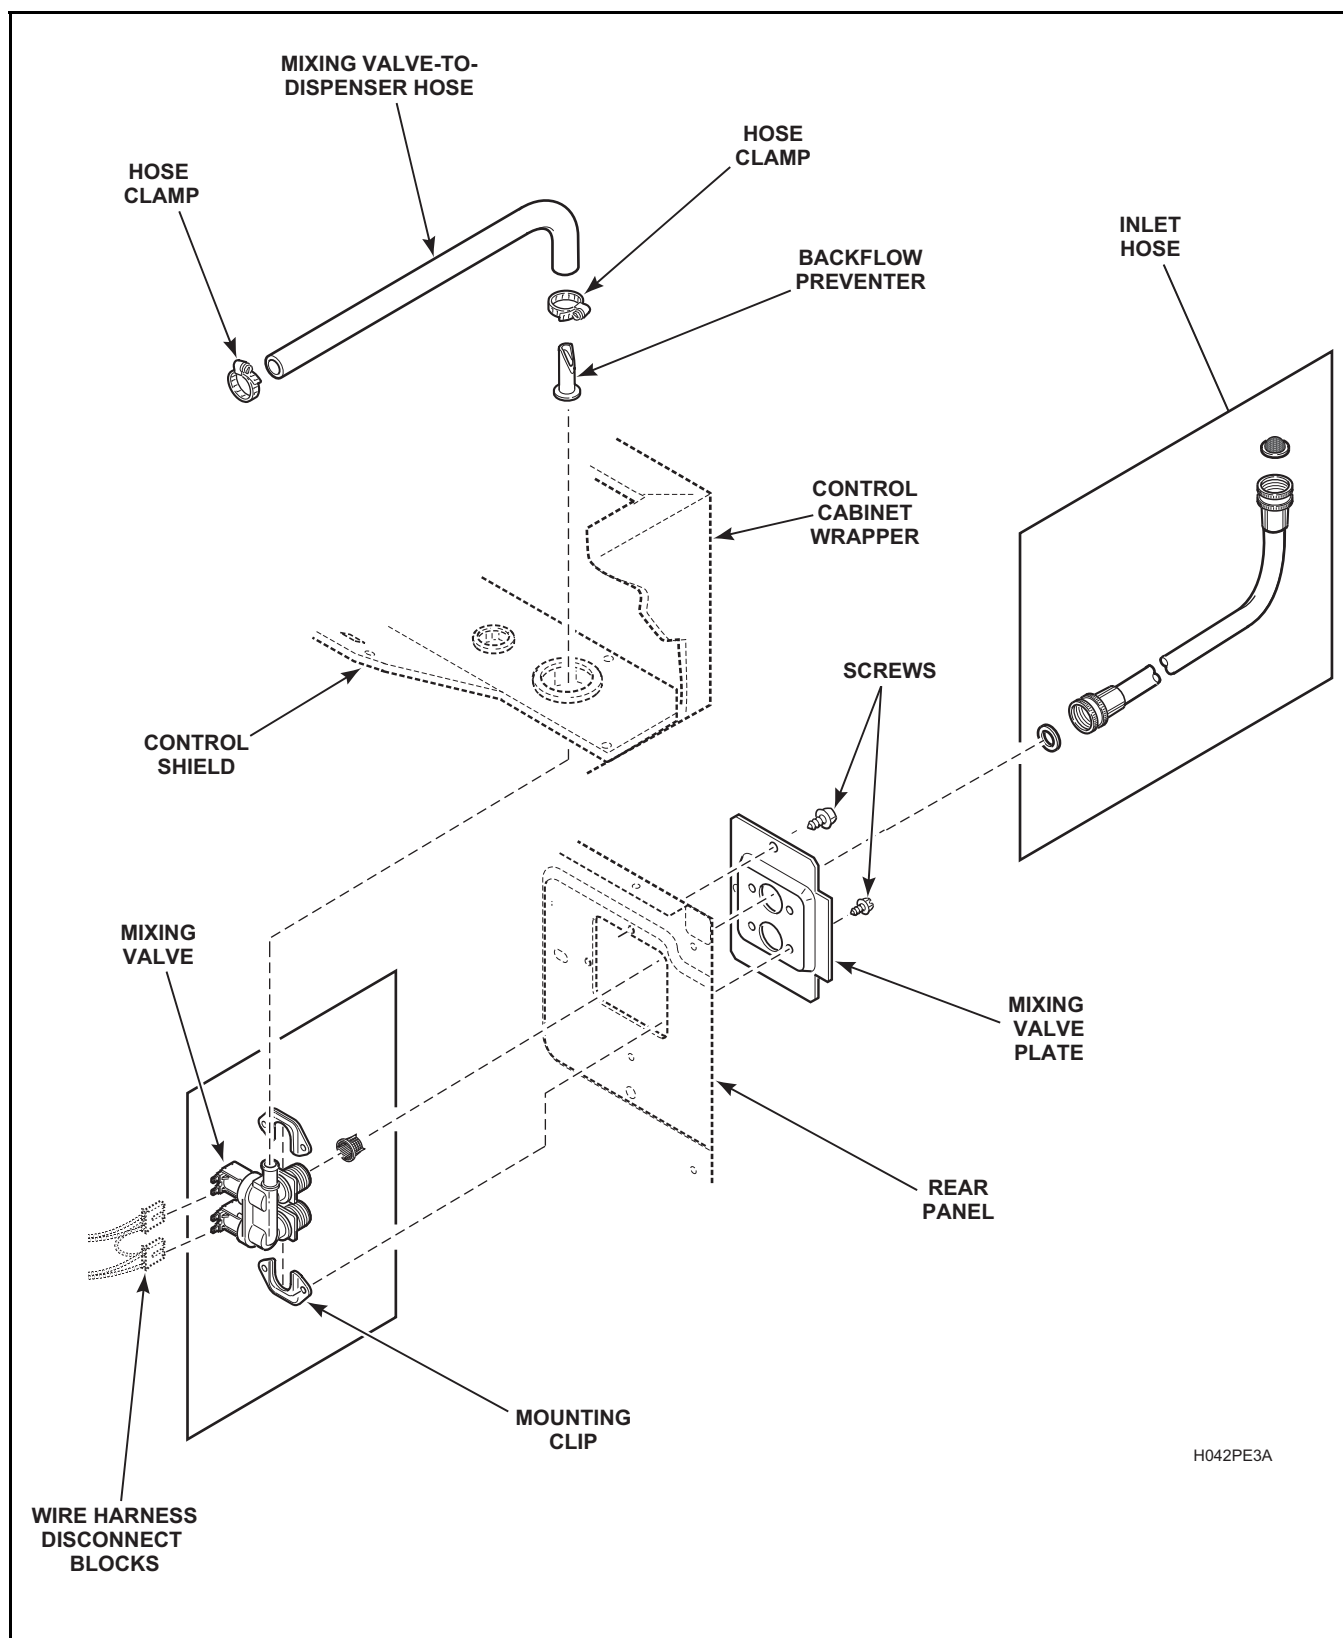

Figure 29
- f. Mixing valve is located on upper back right corner of rear panel. Refer to *Figure 29*.
- h. Loosen hose clamp and remove mixing valve-to-dispenser hose at the mixing valve. Refer to *Figure 29*.
- i. Remove wire harness disconnect blocks from mixing valve solenoid terminals. Refer to *Figure 29*.
- j. Go to rear of washer and remove screw holding mixing valve and plate to rear panel, then remove valve and plate out through opening in rear panel. Refer to *Figure 29*.
- k. Remove screws holding valve to mixing valve plate. Refer to *Figure 29*.